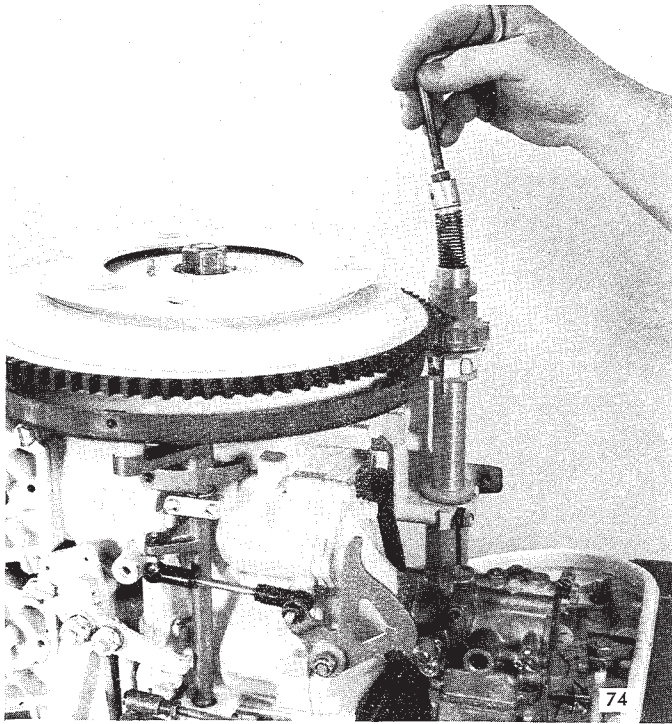

FIGURE 6—INSTALLING STARTER SPRING
7. Insert the entire assembly inside of starter spool with the retainer end down. Refer to Figure 6.